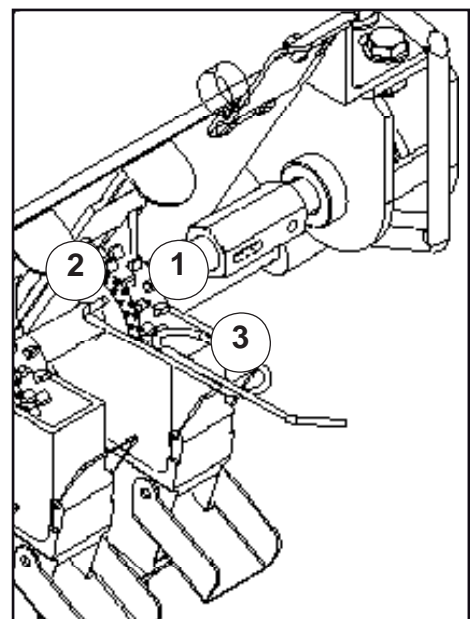

Fig 16
For sowing fine seeds the Trash Boss Drill is equipped as standard with a combined normal and fine seed "Elite" metering wheel (1). During grain sowing and other larger varieties of seed both the normal and fine seed metering wheels are coupled and both rotate. In order to convert the seed drill to sow fine seed insert the crank handle and rotate clockwise until the holes (2) of the fine seed wheel are visible (Fig 16)